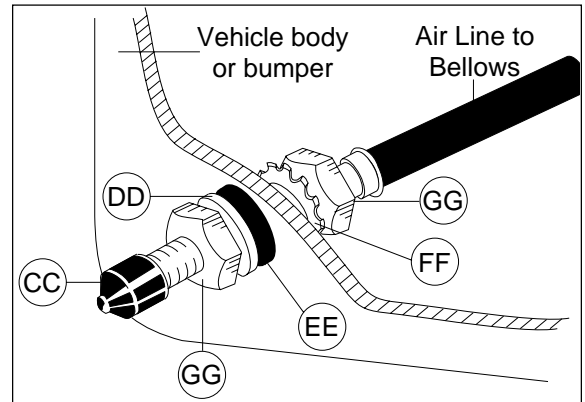

Figure 8
4. Place a  $\frac{5}{16}$ " nut (GG) and a star washer (FF) on the air valve. Leave enough of the inflation valve in front of the nut to extend through the hole and to have room for the rubber washer (EE), flat washer (DD), and  $\frac{5}{16}$ " nut (GG) and cap (CC). There should be enough valve exposed after installation - approximately  $\frac{1}{2}$ " - to easily apply a pressure gauge or an air chuck (Figure 8).
5. Push the inflation valve through the hole and use the rubber washer (EE), flat washer (DD), and another  $\frac{5}{16}$ " nut (GG) to secure it in place. Tighten the nuts to secure the assembly in place (Figure 8).